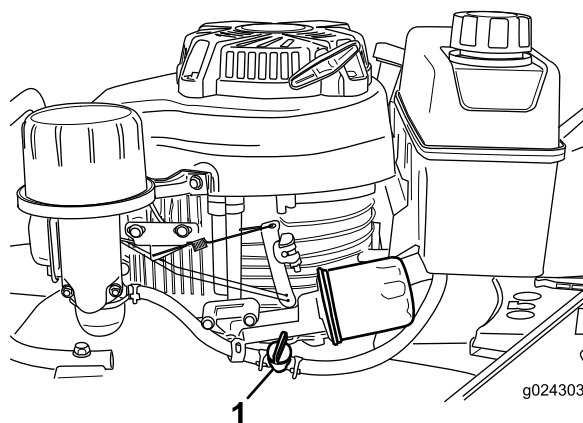

Figure 13
2. Open the fuel valve (Figure 13).